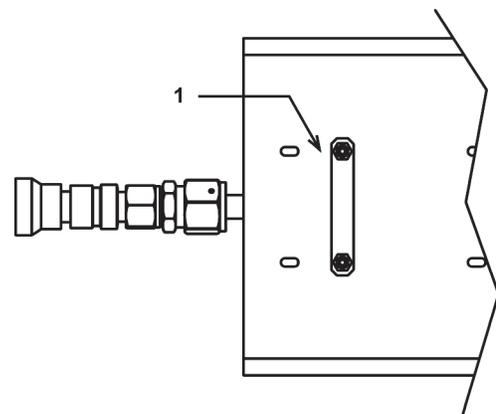

Figure 2. molstic-S Nut Plate
- 8 Place the flat side of the 60 mm nut plate (Fig 2, 1) under the molstic-S platform. Align it with the holes in the platform and the regulator bracket. Hold it in place.